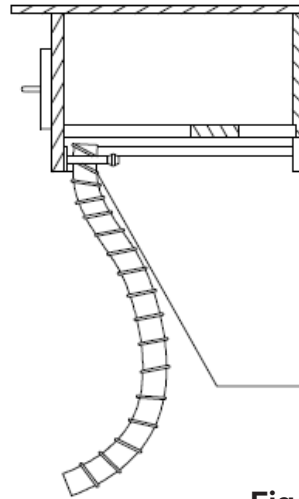
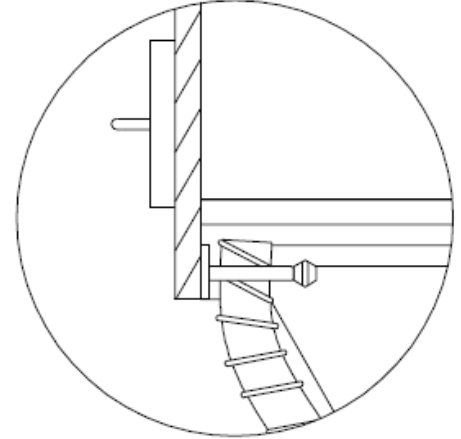

Fig 12.5
Fig 12.6
2. Once the Umbilical is held in place (Fig 12.5) tighten the locking screw on the Hose Clamp to secure the Umbilical (Fig 12.6).